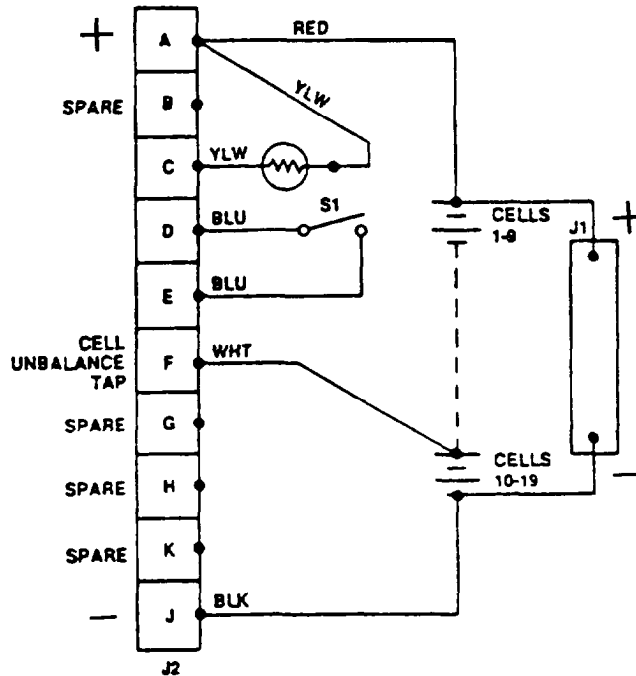

Figure 3-1. Battery M-432B/A Wiring Harness, Wiring Diagram.
Refer to the symptom index to locate the troubleshooting procedures for the observed malfunction. Table 3-1 lists the common malfunction that may occur during operation or maintenance of the batteries. Perform the tests or inspections, and the recommended corrective actions in the order listed in the troubleshooting table. If the malfunction is corrected by a specific corrective action, do not continue with the remaining steps, if any. While performing troubleshooting procedures on batteries BB-432B/A, BB-558/A, BB-564/A, BB-664/A, or BB-716/A, refer to figures 3-1 through 3-5 for wiring diagrams of battery harnesses.
6. AIRCRAFT BATTERY FAULT INDICATOR LIGHTS (BB-432B/A) (fig. 3-1).
6. AIRCRAFT BATTERY FAULT INDICATOR LIGHTS (BB-428/A) (fig. 3-1) (cont).